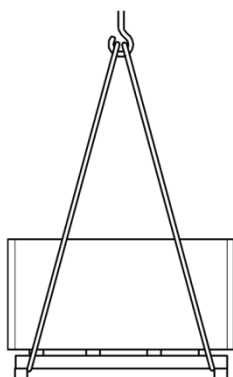

Figure 20: lifting gear
- 1 Sling on ropes, belts accordingly (Fig. 20) to the pallet and secure pallet against slipping.